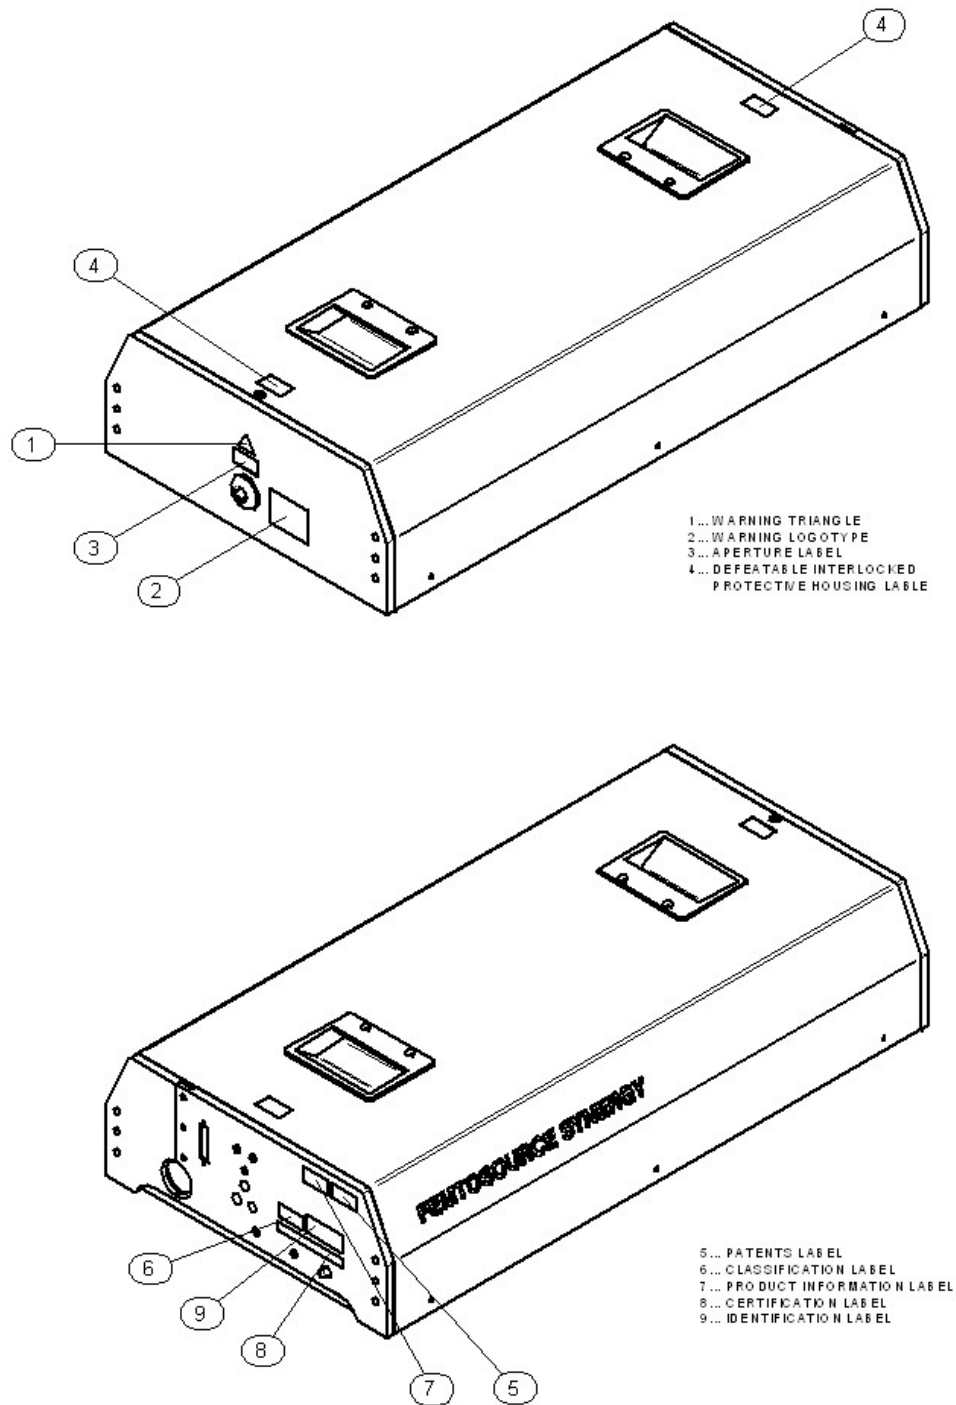

Figure 1.1 Location of labels
* Numbers are referring to figure 1.1